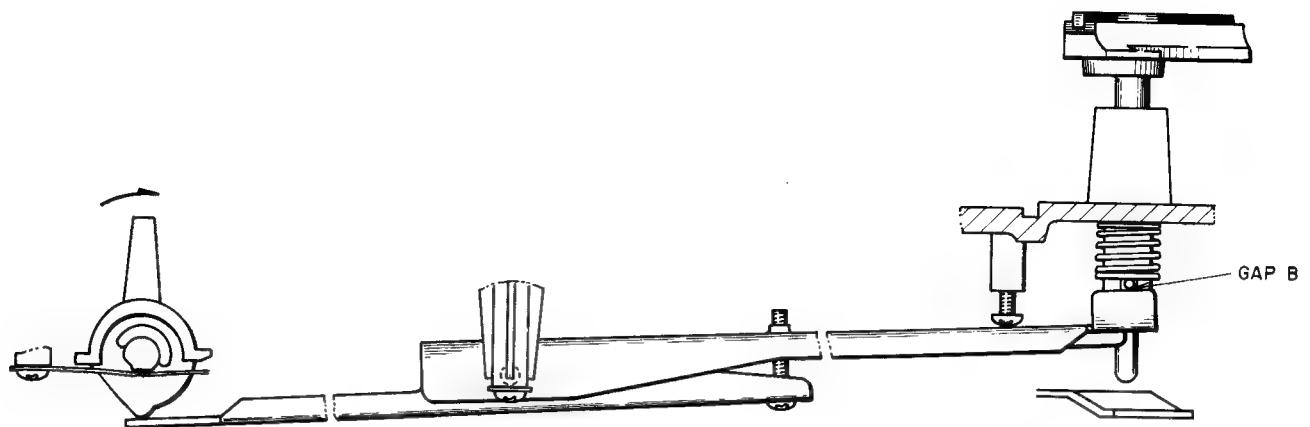

Fig. 10
- tion control at ▲, adjust screw (b) at exactly the point where the gap (B) between the shaft pin and the elevation lever (A) disappears. (Refer to Fig. 10.)